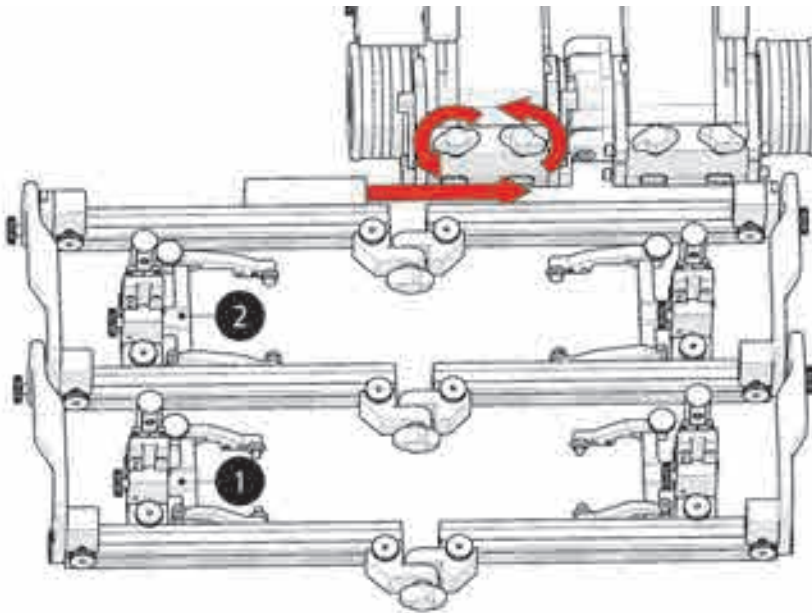

Figure 4-115 Connect rack to right drive module
2. Affix the probe holders, with attached wedges, to the probe holder rack (see Figure 4-115 on page 178):
- a) Place the secondary probe holders at the front of the rack (1).
- b) Place the primary probe holders at the rear of the rack (2).